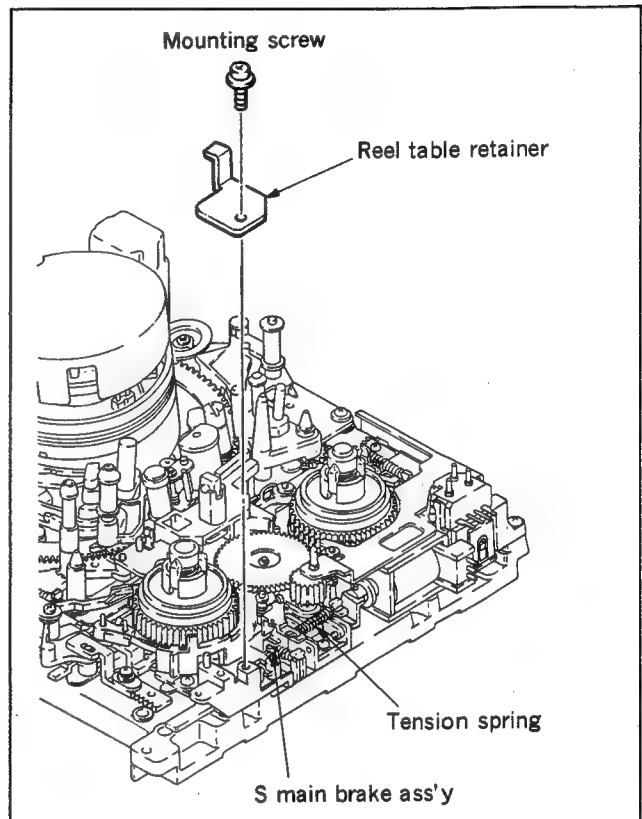

Fig. 4-14-2 Reel table retainer removal and tension spring removal.
2. Reel table retainer removal (Fig. 4-14-2)
3. Tension spring removal (Fig. 4-14-2)